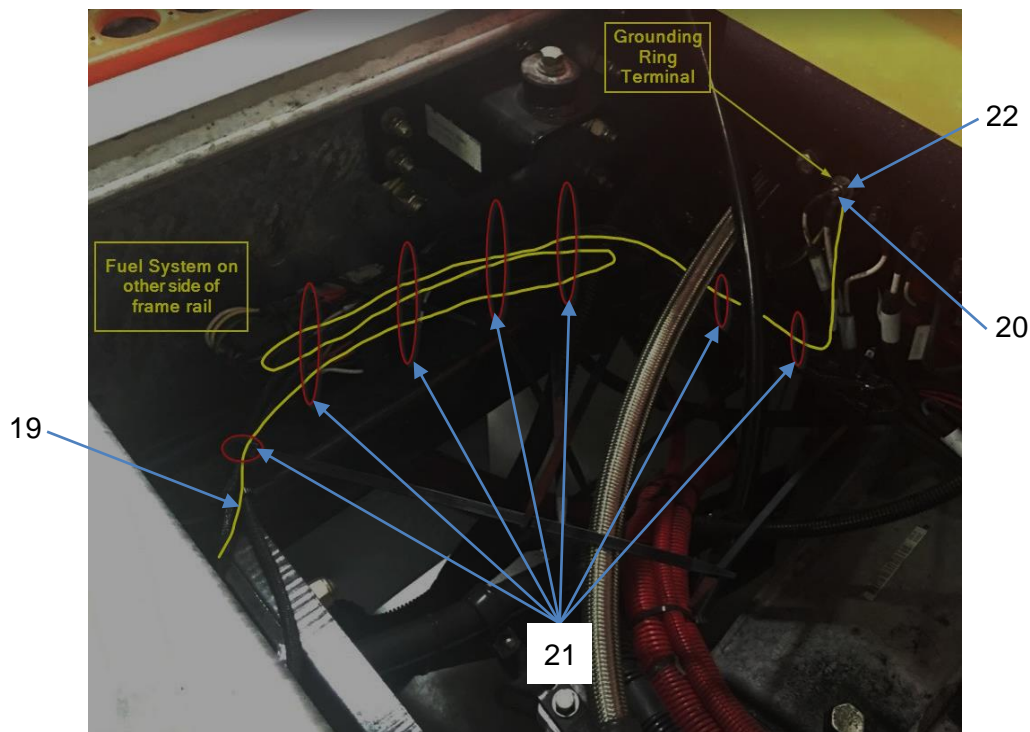

Figure 11.
15. Remove nut (22) from stud (20) on grounding plate at rear of cab and use it to secure relay harness grounding ring terminal (17). *Figure 11*
16. Loop excess grounding wire length onto itself inside of frame (19), secure to OEM harness using zip ties at locations (21), and clip zip tie tag ends using side cutters. *Figure 11*